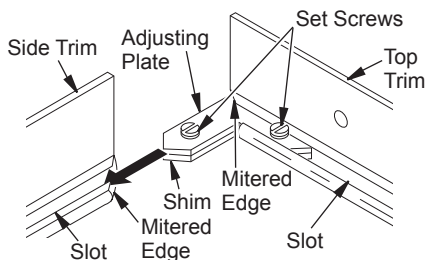

Figure 6 - Assembling Perimeter Trim
3. Align shim under adjusting plate as shown in Figure 6.
4. Slide one end of adjusting plate/shim in slot on mitered edge of top trim (see Figure 6).
5. Slide other end of adjusting plate/shim in slot on mitered edge of side trim (see Figure 6).